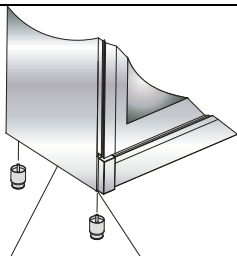

Figure 1
1. Foot attachment lath is installed on the oven from the bottom of the oven as shown in Figure 1. Nuts are centered on these lathes in order to screw feet (Figure 2). Complete the feet installation process by screwing the feet to the nuts (Figure 3).